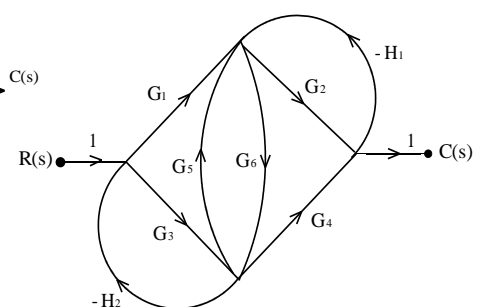

Fig.Q1C
**1C.** Obtain the overall transfer function of a closed loop system represented by the signal flow graph shown in Fig. Q1C using mason's gain formula.